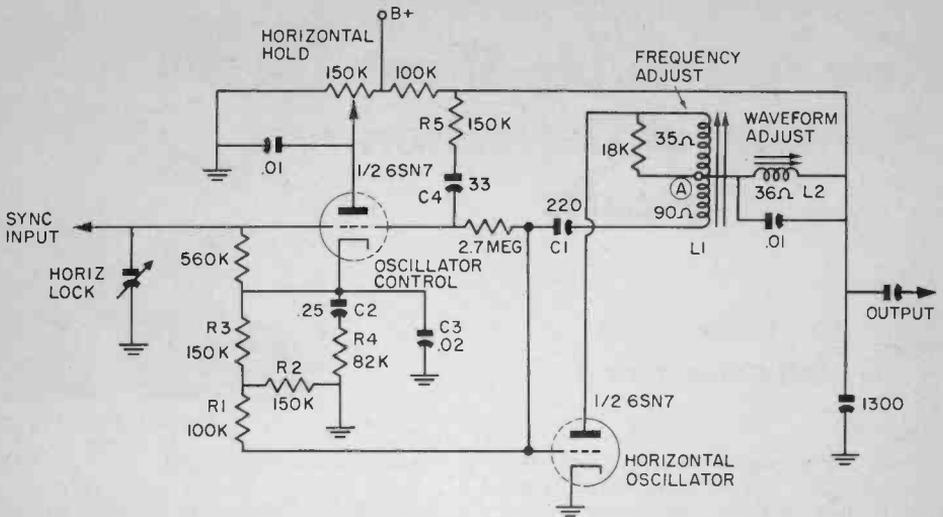

FIG. 2. Synchroguide horizontal sweep oscillator and control tube.
**Synchroguide Circuits.** The synchroguide horizontal oscillator-control circuit shown in Fig. 2 is widely used. You should understand it thoroughly.
The frequency of the horizontal oscillator is regulated by the dc charge placed on C3 by the oscillator control tube. Resistors R2 and R3 (Fig. 2) act as a voltage divider across this capacitor, and supply the proper dc voltage level through resistor R1 to the grid of
For example, an RCA chassis with an uncorrected complaint of insufficient oscillator output (leading to low drive and overheating of the horizontal amplifier tube) was brought to the writer. The assurance was made that "all" parts had been checked, but none were found to be faulty. This set used the typical synchroguide shown in Fig. 2.